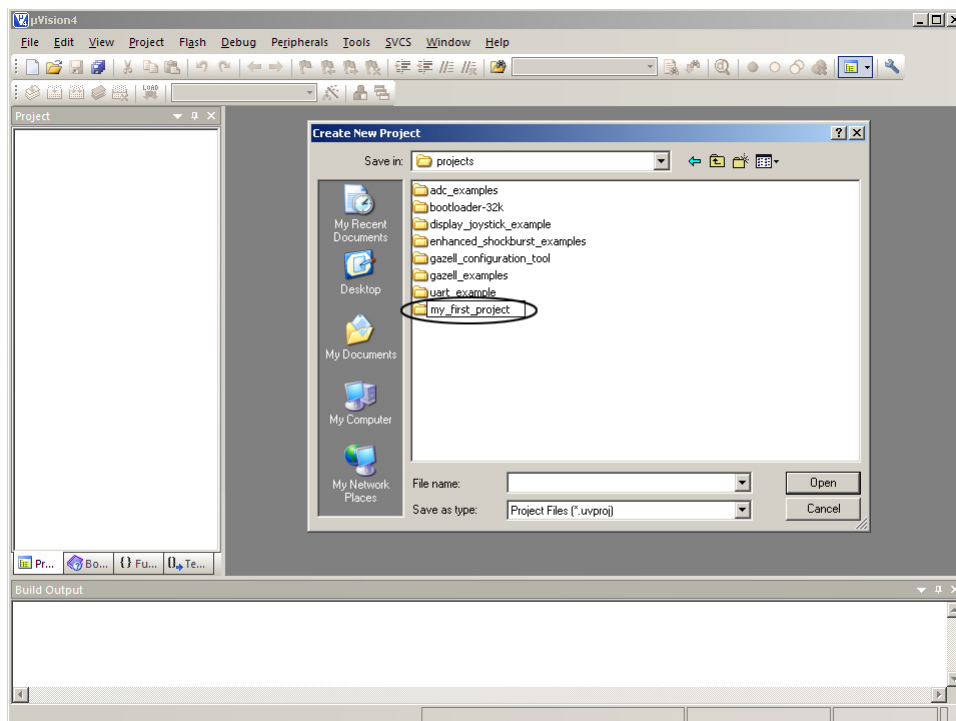

Figure 2. Create a new project
3. You are prompted to specify where you want to save your new project. In this case you want to make a new project in *Source code\projects* and you should call the project "my_first_project". (see project folder encircled in Figure 2.)